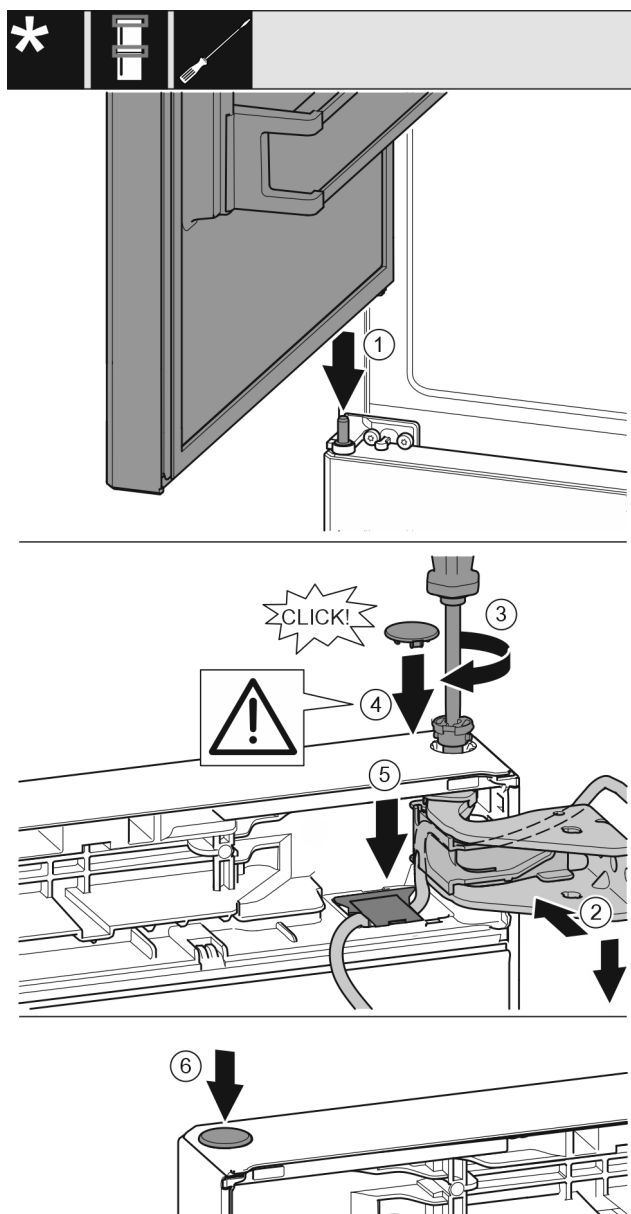

Fig. 44
- Place the top door on the centre bearing bolt Fig. 44 (1).
- Align the top of the door with opening in the bearing bracket. Fig. 44 (2)
- Insert the bolt Fig. 44 (3) and use screwdriver to tighten it.
- Fit the safety cover Fig. 44 (4) to secure the door: Insert the safety cover and check whether the door is resting on it. Otherwise, insert the bolt fully.
- Insert the cover Fig. 44 (5) and push down until it engages.
- Insert the plug Fig. 44 (6).